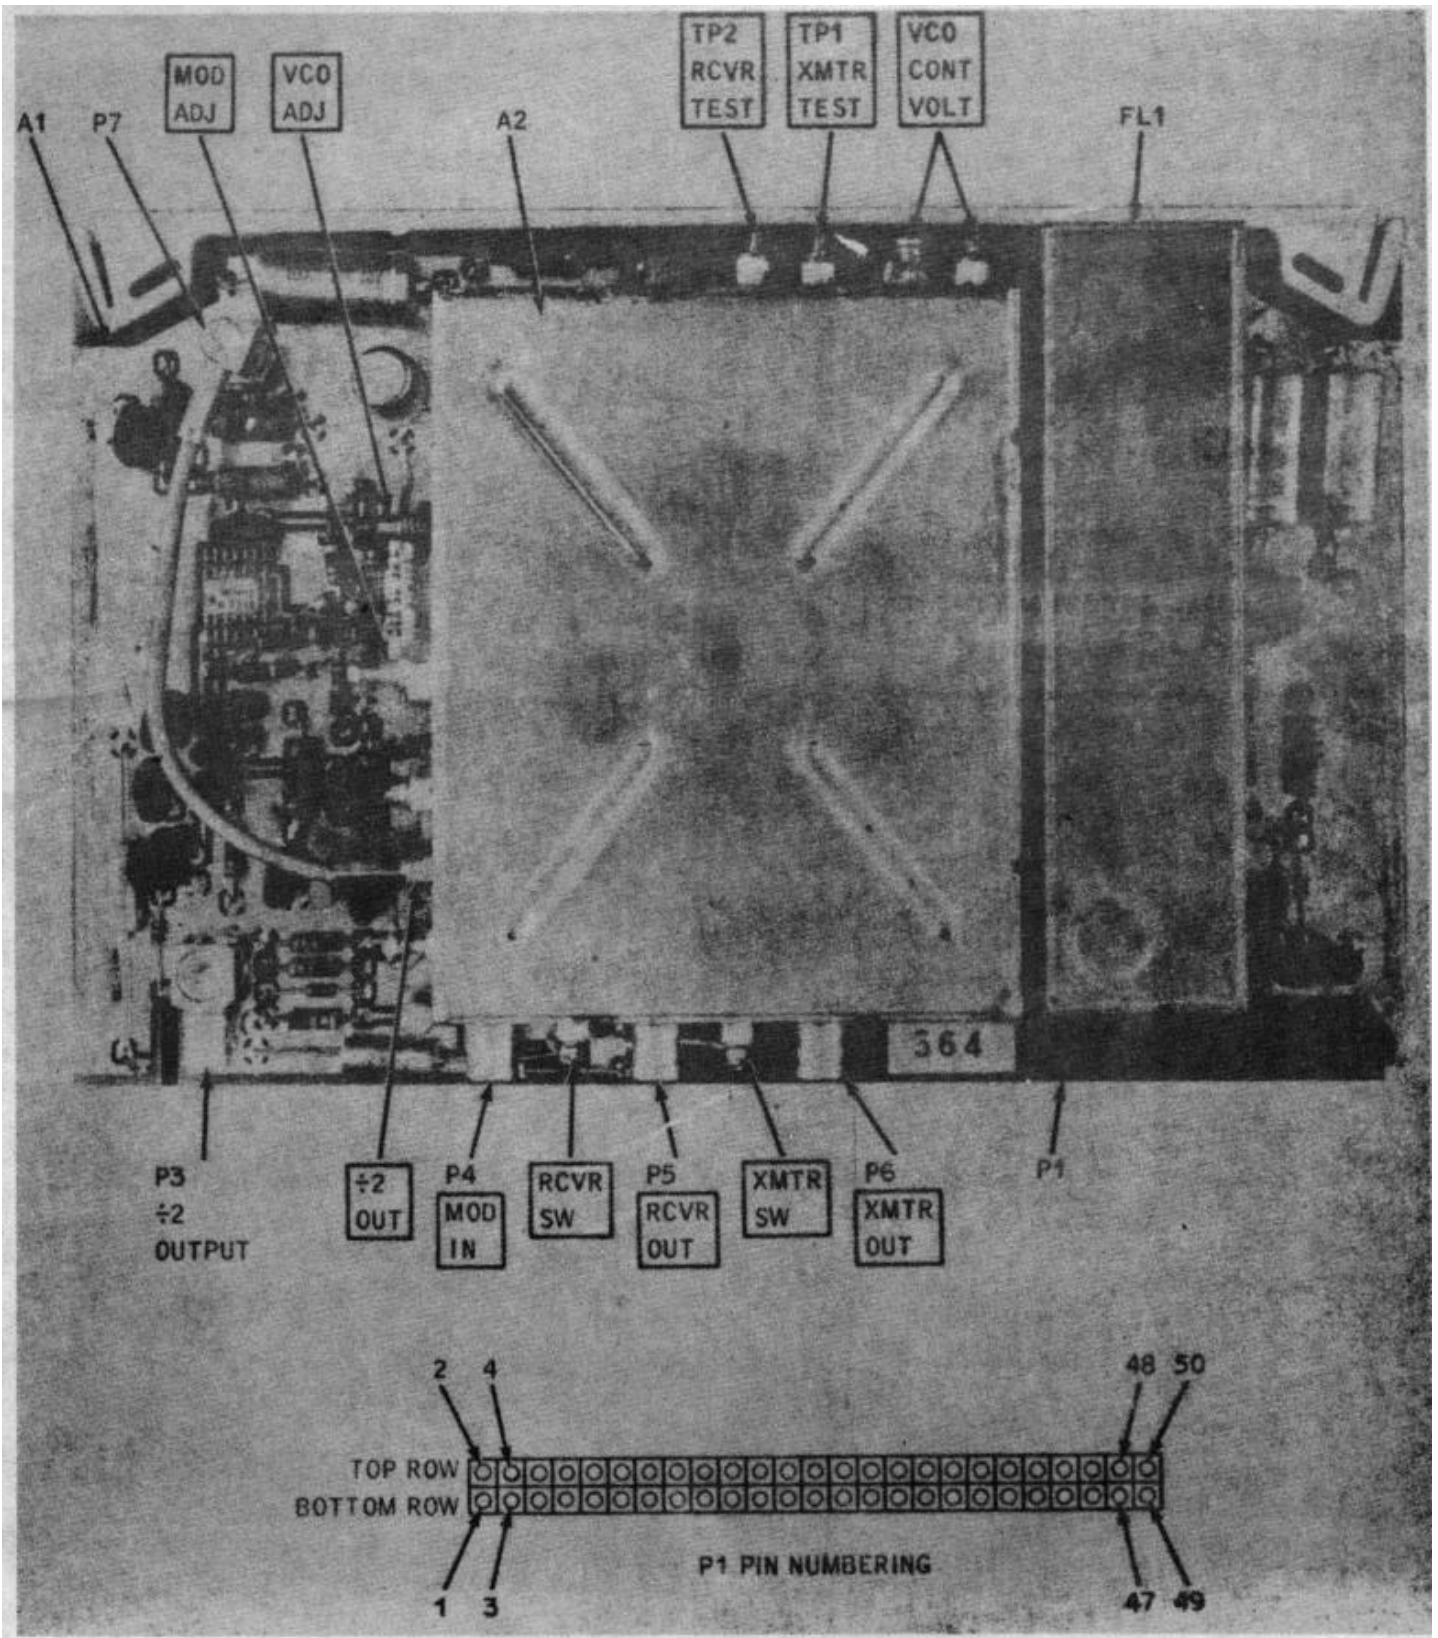

Figure 1-11. Modulator/VCO card 6A4.
- (4) Modulator and voltage-controlled oscillator (VCO) card 6A4 (figure 1-11)